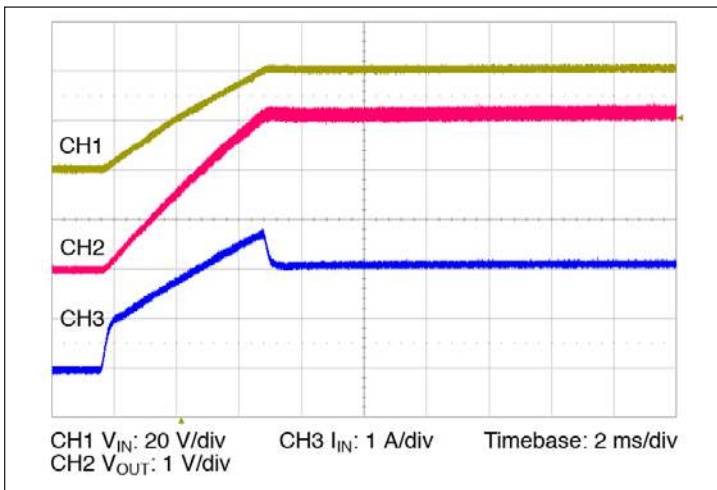

Figure 13 — Start up from application of V_{IN} ; VC pre-applied $C_{OUT} = 0 \mu\text{F}$
- **Normal Operation (VC applied prior to V_{IN}):** In this case the controller is active prior to ramping the input. When the input voltage is applied, the VTM output voltage will track the input (See Figure 13). The inrush current is determined by the input voltage rate of rise and output capacitance. If the VC voltage is removed prior to the input reaching 26 V, the VTM module may shut down.